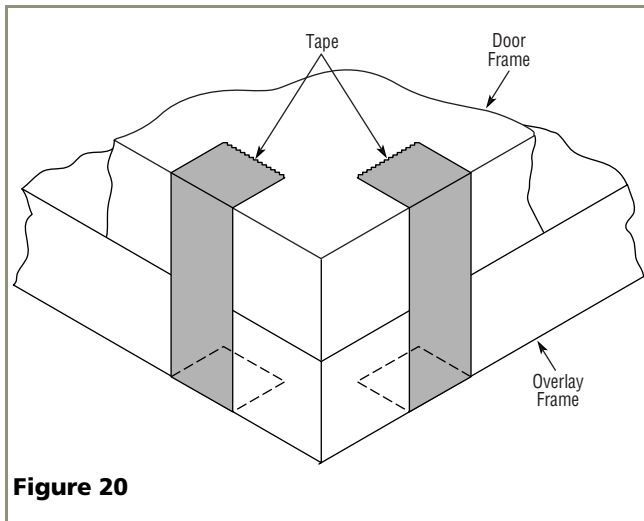

Figure 20
- Secure the front of the door to the back of the overlay frame using tape on all four corners, as shown in **Figure 20**. Make sure all four edges are aligned.